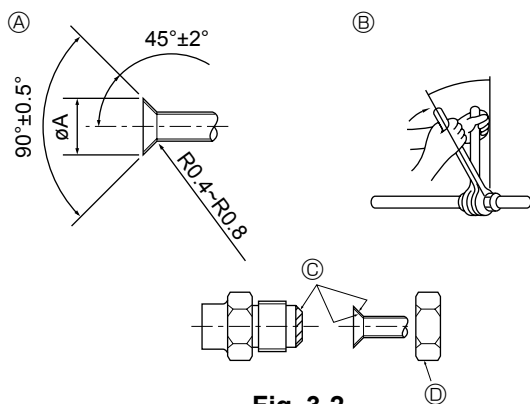

Fig. 3-2
3.2. Connecting pipes (Fig. 3-2)